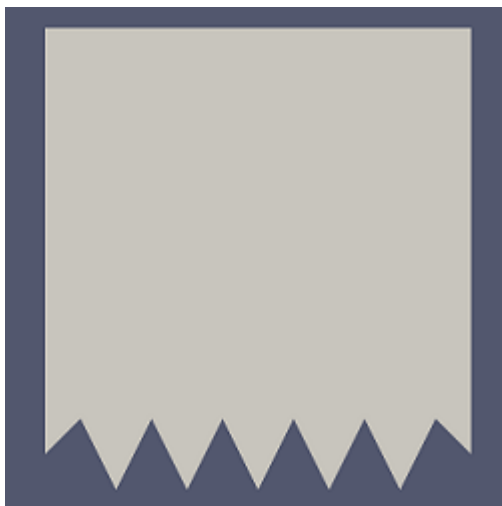

Fig. 5: Aperture no mill radius or smoothing
3. figure 5: shows a resulting aperture shape with no mill radius and no smoothing applied to the aperture creation parameters